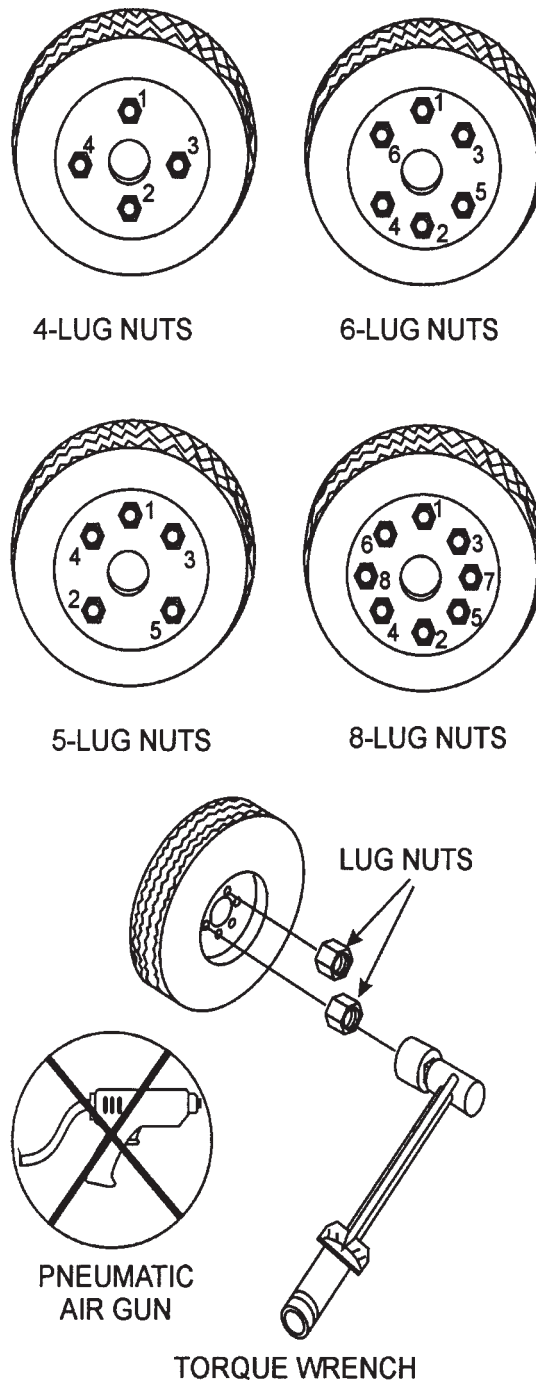

Figure 67. Wheel Lug Nuts Tightening Sequence
2. Torque all lug nuts in sequence. See Figure 67. **DO NOT** torque the wheel lug nuts all the way down. Tighten each lug nut in 3 separate passes as defined by Table 18.